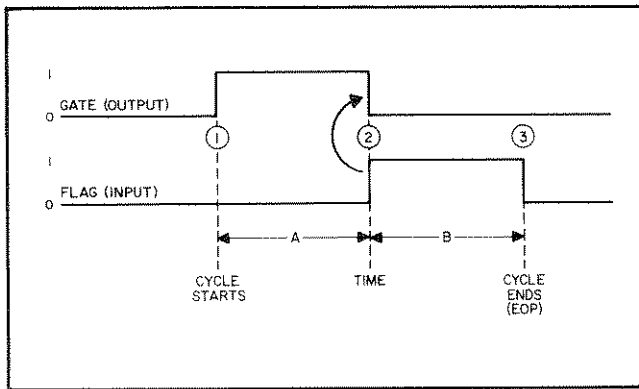

Figure 4-4. Gate/flag Handshake
4-42 As shown in Figure 4-4, the handshake begins at time ①, when the control chip starts the cycle by making GATE = 1. (The data is latched into the second rank storage register simultaneously). At time ②, the external device acknowledges receipt of the gate signal by setting FLAG = 1, and this causes the control chip to clear gate (GATE = 0). The sequence does not complete (and the control chip does not signal the microprocessor) until the trailing edge of flag, at time ③. This gives the external device maximum flexibility. It can, depending upon its particular circuitry, delay the handshake in either time period A or B. For example, an external D/A response to the gate signal by setting a busy status line. At the completion of the conversion (10 msec), the busy line is reset = 0. This busy status line can be tied directly to the flag input, in which case the D/A holds off the output card in time period B.
4-51 External Gate/Flag. Again, the situation arises when the card can complete very quickly, but the external device might be slow. In the case of inputs, if the data is loaded into the input latch before the external device can transmit the correct data to the input card, erroneous data will be stored in the input latch. To avoid this problem, a way to synchronize the external device with the Multiprogrammer is required so the data is not stored until the external device has transmitted it. Just as with output cards, the gate/flag handshake can be extended to the external device. Again refer to the gate/flag handshake in Figure 4-4. Although the card